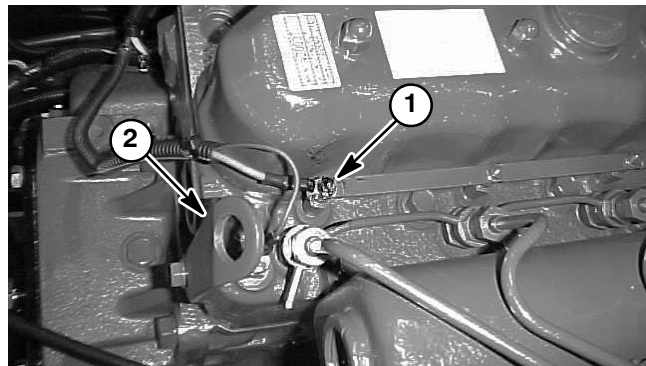

Figure 13
- C. The high temperature shutdown switch and glow plug (Fig. 13).